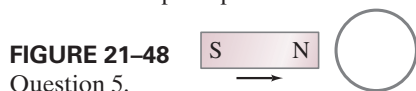

FIGURE 21-48
- (a) If the north pole of a thin flat magnet moves on a table toward a loop also on the table (Fig. 21-48), in what direction is the induced current in the loop? Assume the magnet is the same thickness as the wire. (b) What if the magnet is four times thicker than the wire loop? Explain your answers.